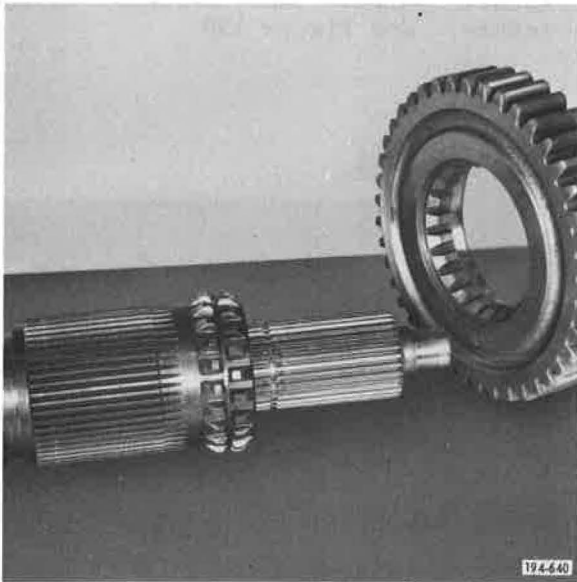

Figure 122. Removing Gear
7. Remove third speed gear. See Figure 122.